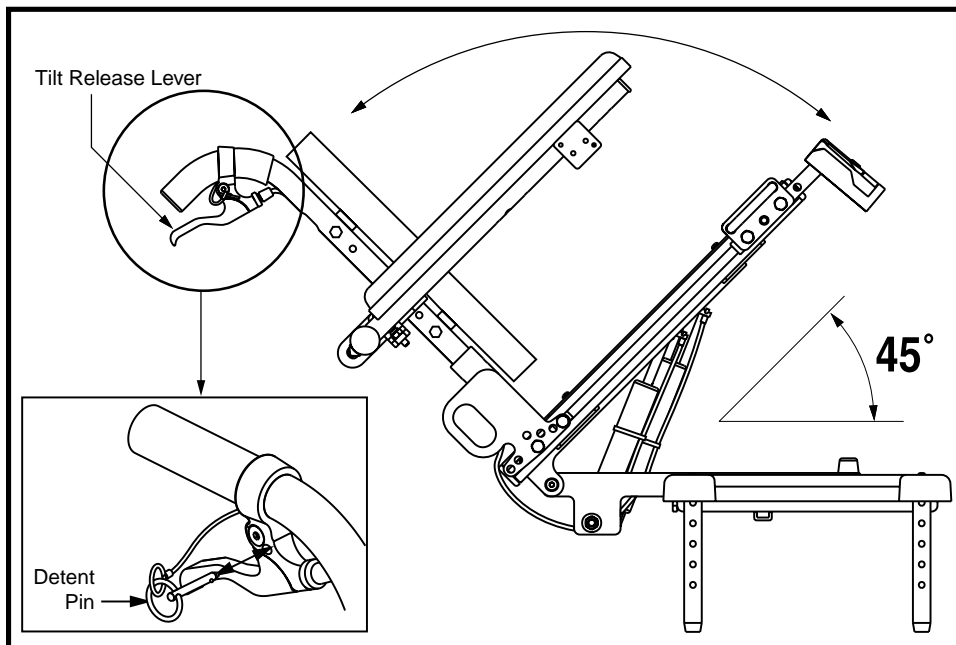

Figure 4. Synergy Manual Tilt Operation
1. Remove the detent pin from the tilt release lever. See figure 4.